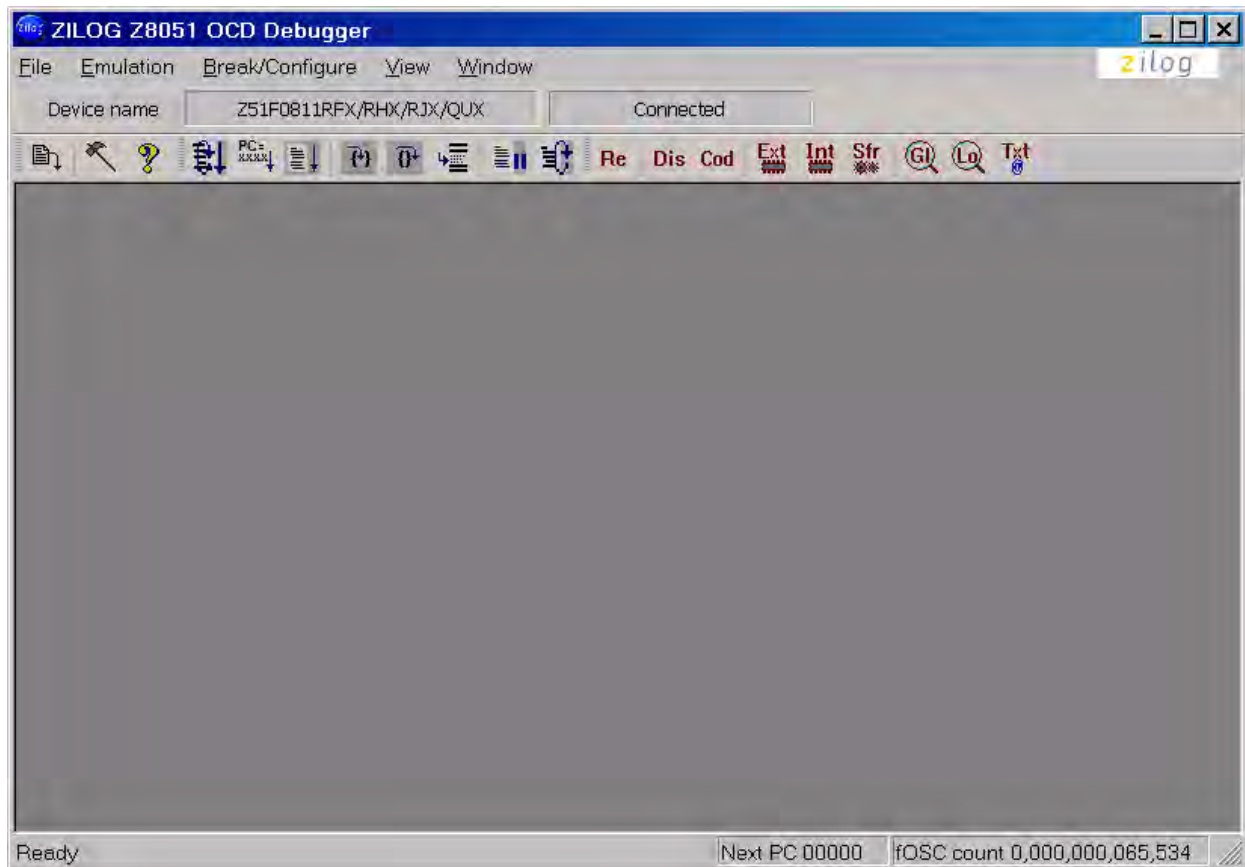
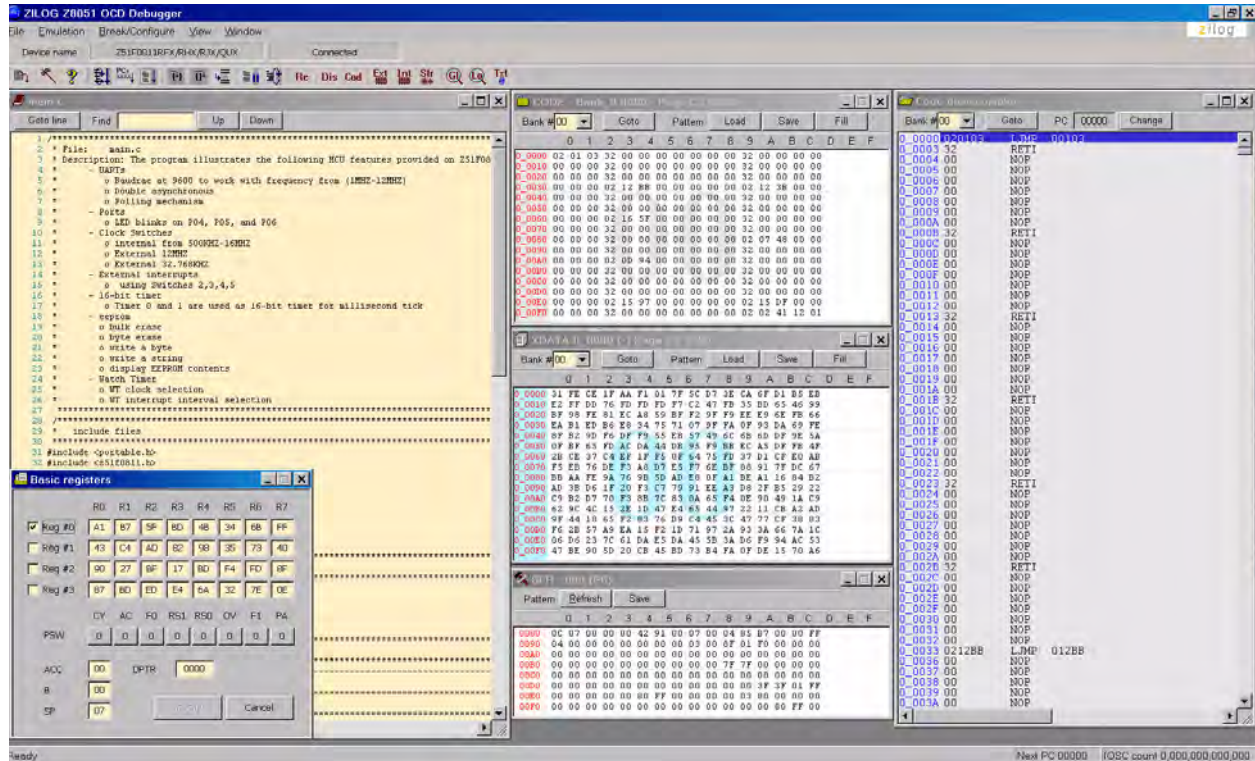

Figure 18. A Typical On-Chip Debugger Window
Figure 19. A Typical On-Chip Debugger with Child Windows Open
- Click the **Write** button to open the On-Chip Debugger's main window. A typical OCD display is shown in Figure 18; Figure 19 shows an OCD window with child windows open.
► **Note:** Use the View menu to open the child windows. For this demonstration, the example windows shown in Figure 19 do not need to be opened.